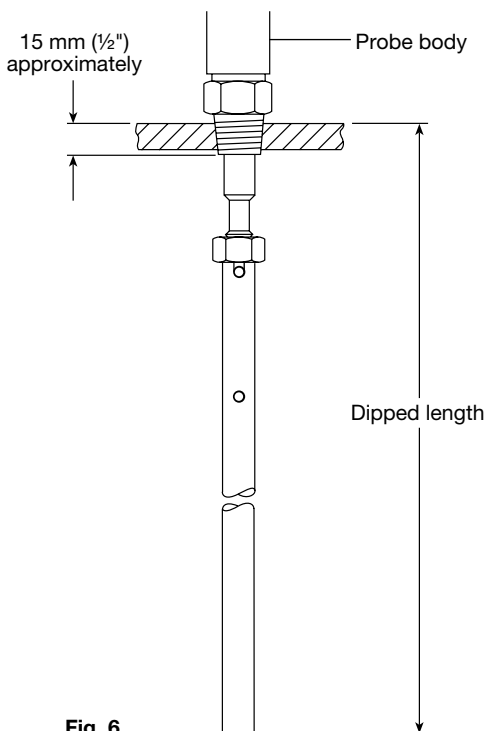

Fig. 6
- Use a fine hacksaw to cut the probe tip to this length (see Figure 6).